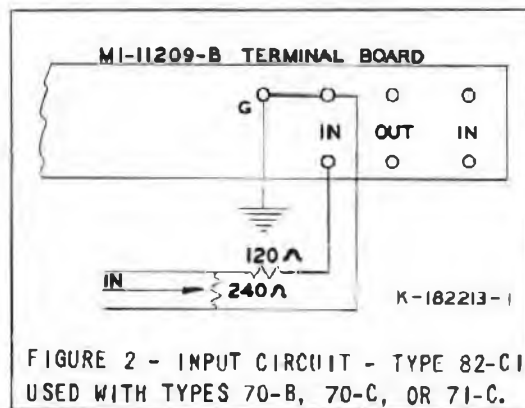

FIGURE 2 - INPUT CIRCUIT - TYPE 82-C1 USED WITH TYPES 70-B, 70-C, OR 71-C.
2. Connect the input to the amplifier as shown in Figure 2.